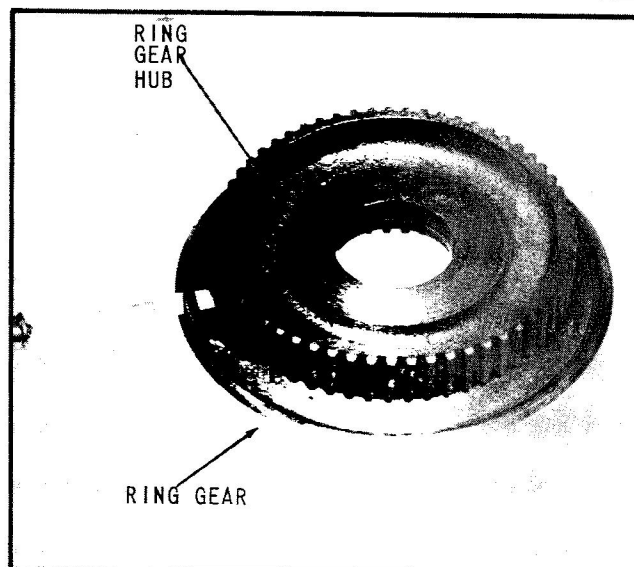

Fig. 17 Remove Ring Gear Snap Ring
10. Ring gear and ring gear hub may be separated by removing the snap ring from ring gear, (Fig. 17).